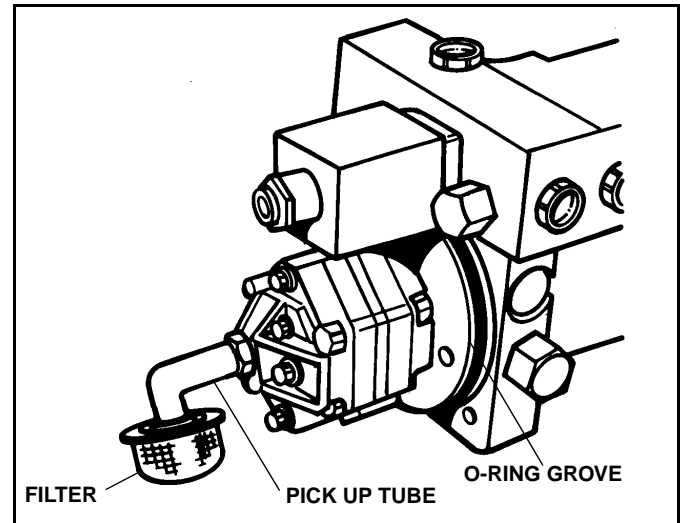

Figure 2-5
12. Visually check that the pickup tube and filter face down (See Figure 2-5) if not, rotate the pickup tube.